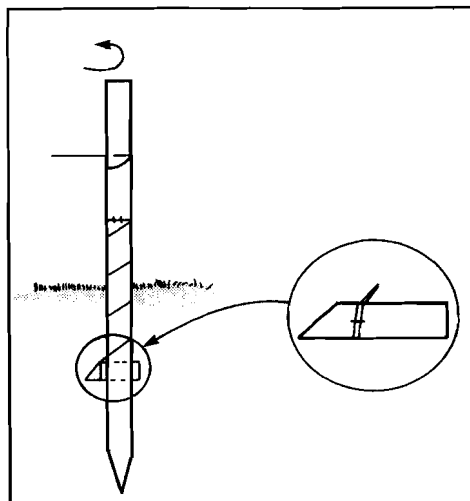

Fig. 19 Deadman anchor to prevent excessive twisting of end post.
2. Drive the post to a depth of 122 cm. Some soils may be particularly loose (such as bogs) in which case strengthen posts if possible by placing deadman anchors (Fig. 19). Each anchor is constructed from a short (30-cm) piece of 10×10 cm treated post. Cut one end of this on a 45° angle and fasten a cable (made from